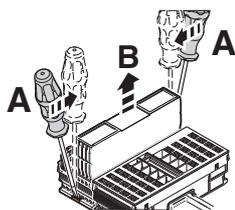
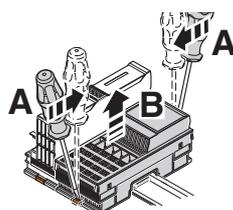

Fig. 6-11 Removing the bus coupler
Fig. 6-12 Removing an input/output module
- Insert a suitable tool (e.g., bladed screwdriver) first in the upper **and** then in the lower snap-on mechanism (base latches) of the module and release it (Fig. 6-11, Fig. 6-12, A). The base latches are locked in place in the open position.
- Remove the electronics module **perpendicular** to the DIN rail (Fig. 6-11, Fig. 6-12, B). The base latches return to the idle position again.